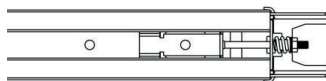

Fig. 8
4. Tighten the nut as shown in Fig. 8, then go to the rail assembly.